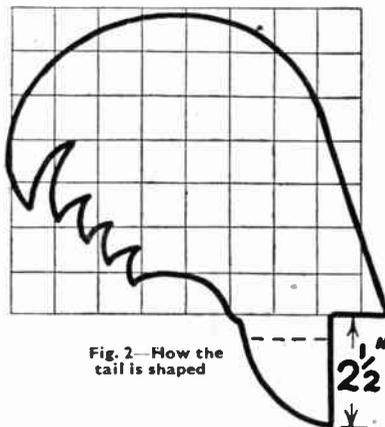

Fig. 2—How the tail is shaped
Pieces (B) and (C), the tail and head, are shown squared in Figs. 2 and 3. The squares shown should be enlarged to 1in. Number the squares from left to right, and from top to bottom, to assist in drawing out the shapes. The back rest (D) will be slightly curved, and will measure approximately 8½ins. wide by